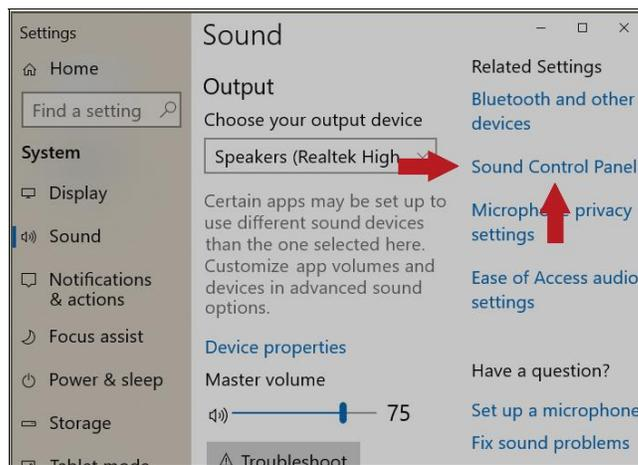

Figure 11 - Settings Window
- In the “Settings” window that opens, click “Sound Control Panel” on the upper right side of the screen as shown in Figure 11.